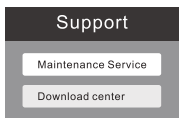
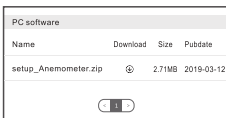
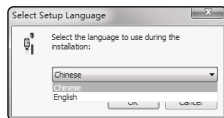

Figure 2
Figure 3
Figure 4
[www.benetechco.net](http://www.benetechco.net) in the browser, press enter and enter the page to find the menu "Support > Download center",as shown in Figure 2. Click into the page to find the software installation package "setup\_Anemometer. Zip",as shown in figure 3.Click the download button to directly extract the "zip package" after downloading. Double-click "setup\_Anemometer.exe" icon to enter into program installation interface; choose between"Chinese or English" according to software installation prompt; click "OK" to the next step, as shown in Figure 4 below.
- Line chart: Figure 1 is wind speed / volume chart; Figure 2 is temperature and humidity chart; print button; measured data list.